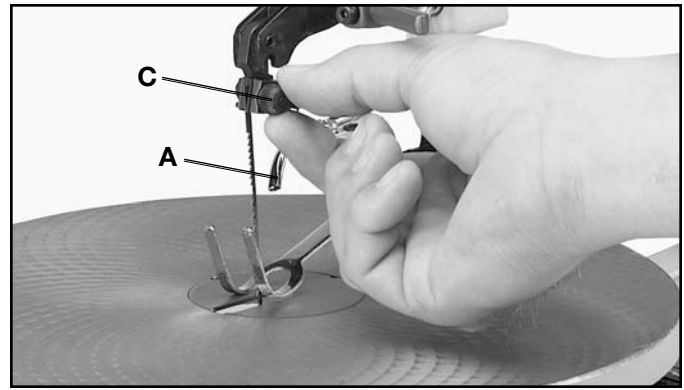

Fig. 30
1. Move the chuck locking lever (A) Fig. 30, to the rear (open) position, as shown.
2. Turn locknut (C) Fig. 30, clockwise to tighten and counterclockwise to loosen the clamping action of the blade holder. Very little movement of locknut (C) will be necessary.